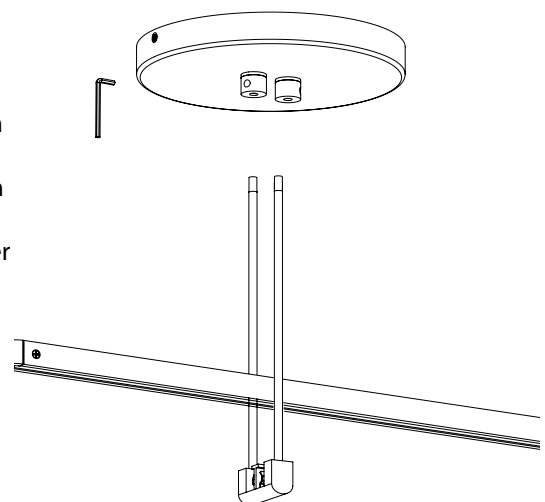

Fig. 3
1. Install the Double Cord Power Feed Hanger onto the Power Bar: press down firmly on the top of the Power Bar, while pressing up on the bottom of the Hanger, until the Power Bar clicks into place. (Fig. 3)